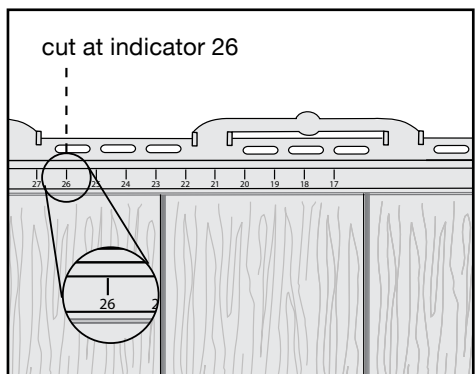

figure 4
7. Cut 26" off of the right side of the S7 panel at indicator 26, which is located on the hanger below the nail slots, cutting straight through the panel (figure 4). Drill a 3/16" hole in the center of the nail hem and nail siding through this hole to control direction of expansion and contraction.